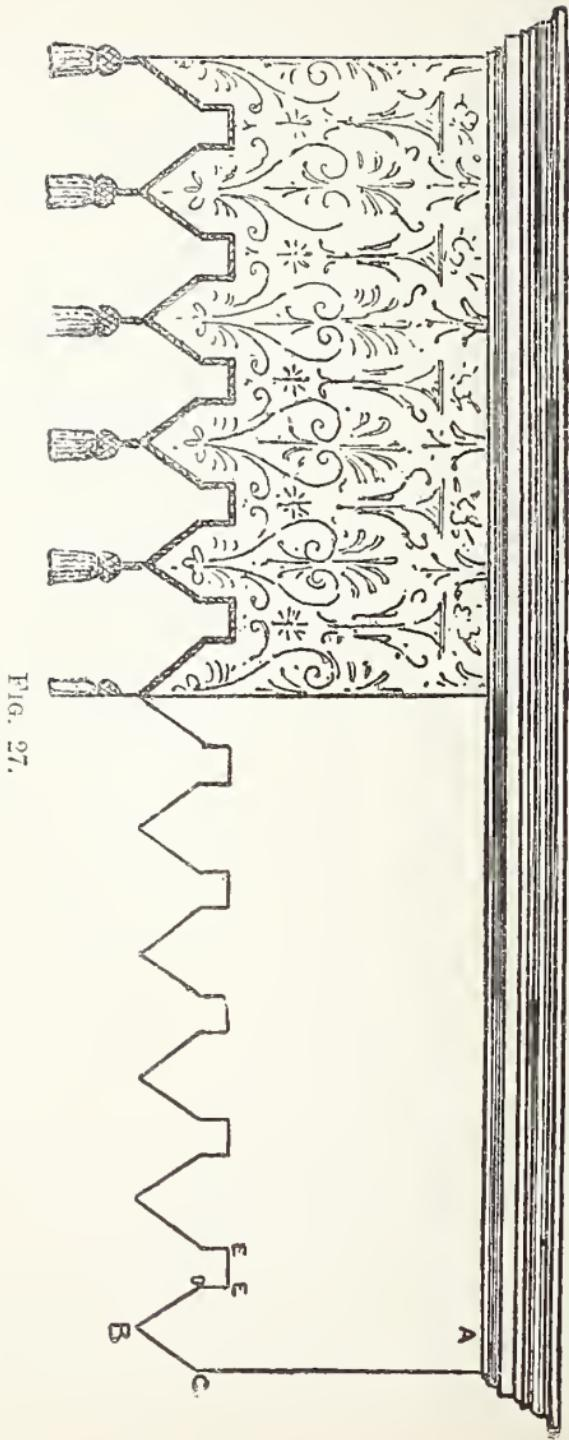

FIG. 27.
**Cutting Valances.**—The accompanying illustrations FIG. 26. of valances (Figs. 27 to 36) will be found adapted to represent everyday requirements, and they are easy to cut. One half of the sketches show the patterns, and the other half the measurements. They are all alike suitable for window or bed draperies; and having cut them many times,